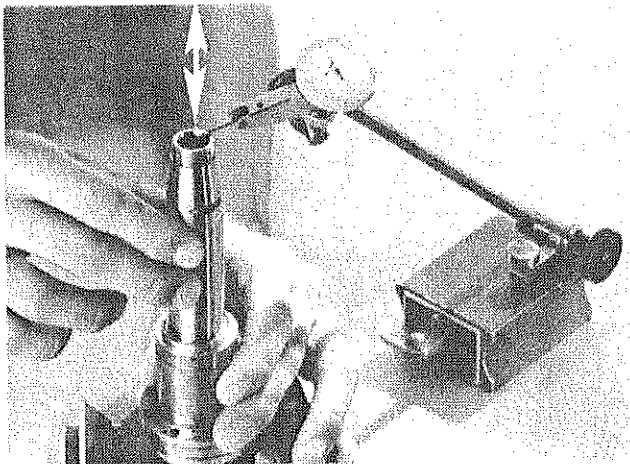

FIG. 23
- a. Place assembly on precision blocks, using a smooth surface plate (inspection table). See Fig. 23. Place dial indicator (dial indicator should measure in .0001" increments) so it touches top of shaft and then measure axial movement for .0009" to .0013". If the movement is over .0013", it may indicate damaged thrust bearing surfaces. If under .0009", it may indicate the surfaces have not been cleaned properly. In either case, the assembly should be taken apart and checked further for damage and cleanliness.